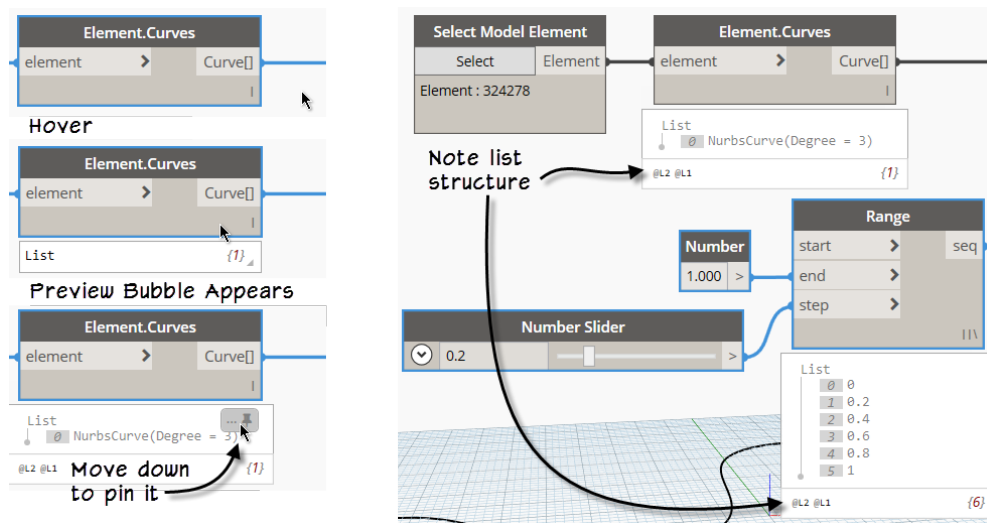

Figure 36
18. Repeat for the ***Range*** node (see Figure 36).